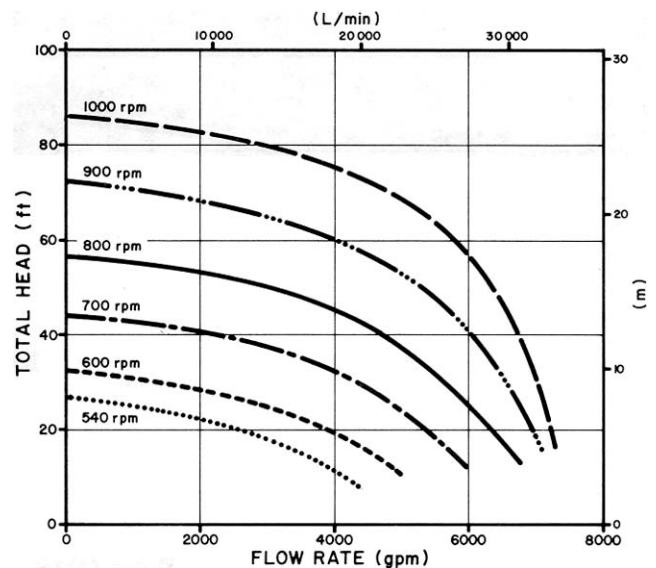

FIGURE 2. Lloyd's Model RE-140 Performance Curves at Various Power Take-off Speeds.
**Flow Rate:** Flow rate characteristics of the Lloyd's model RE-140 pump are given in FIGURE 2 for a range of total heads and power take-off speeds. Performance curves were determined for a 37 in (940 mm) inlet submergence depth as measured from the water surface to the centre of the impeller.